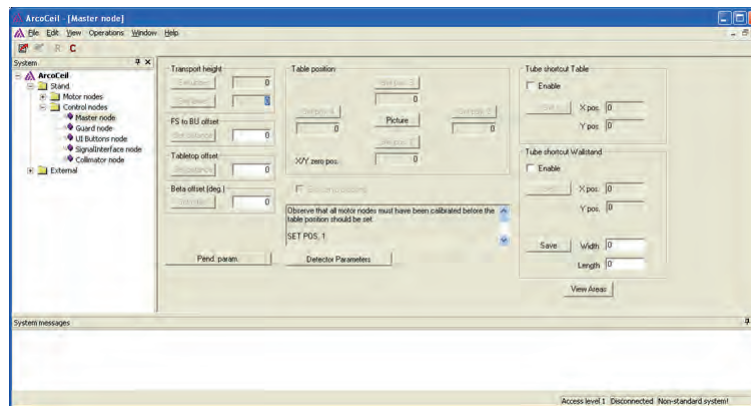

Fig. 4-131
See also Fig. 4-131 Master node view.
See Fig. 4-131 Master node view:
Also see Fig. 4-131 .
3. Move to the *Master view*. See Fig. 4-131 Master node view.
See Fig. 4-131 Master node view.